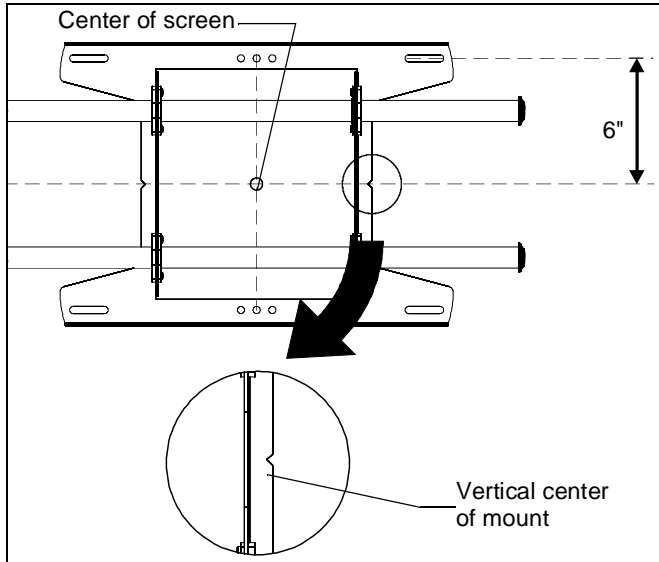

Figure 1
3. Line up the notches on mount with center of screen marking to determine vertical center. (See Figure 1)
- Line up the notches on mount with center of screen marking to determine vertical center. (See Figure 1)
- Measure up 6" from the center point to mark location of the upper mounting slots. (See Figure 1)